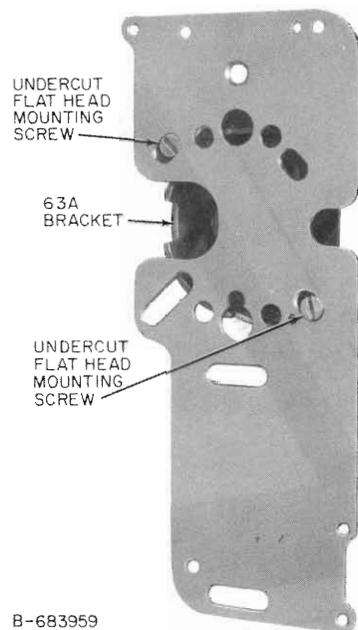
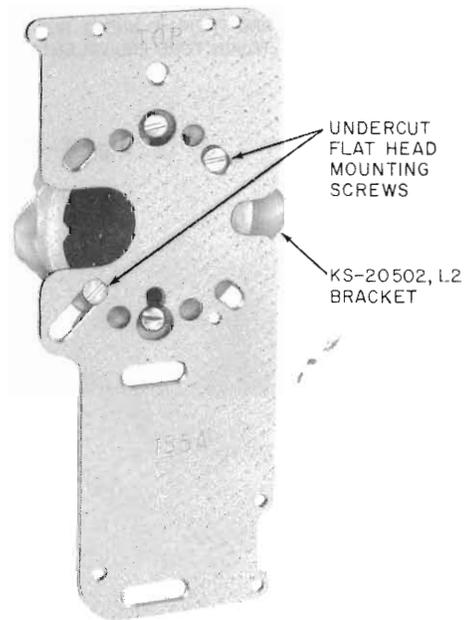

Fig. 8—155A Adapter (Current Model) Mounted on 63A Bracket
Fig. 9—155A Adapter (Current Model) Mounted on KS-20502, List 2 Bracket
3.03 Fig. 8 shows a 155A adapter attached to a 63A bracket, and Fig. 9 shows a 155A adapter attached to a KS-20502, List 2 bracket.